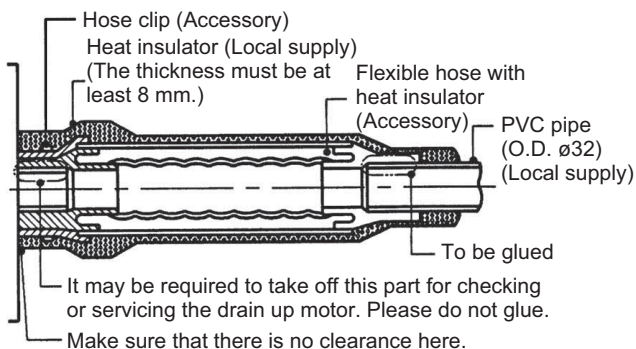

Fig. 1-11-7-8
- Tighten the hose clamps so their locking nuts face upward. (Fig. 1-11-7-8)
(2) After connecting the drain pipe securely, wrap the supplied packing and drain pipe insulator around the pipe, then secure it with the vinyl clamps. (Fig. 1-11-7-9)